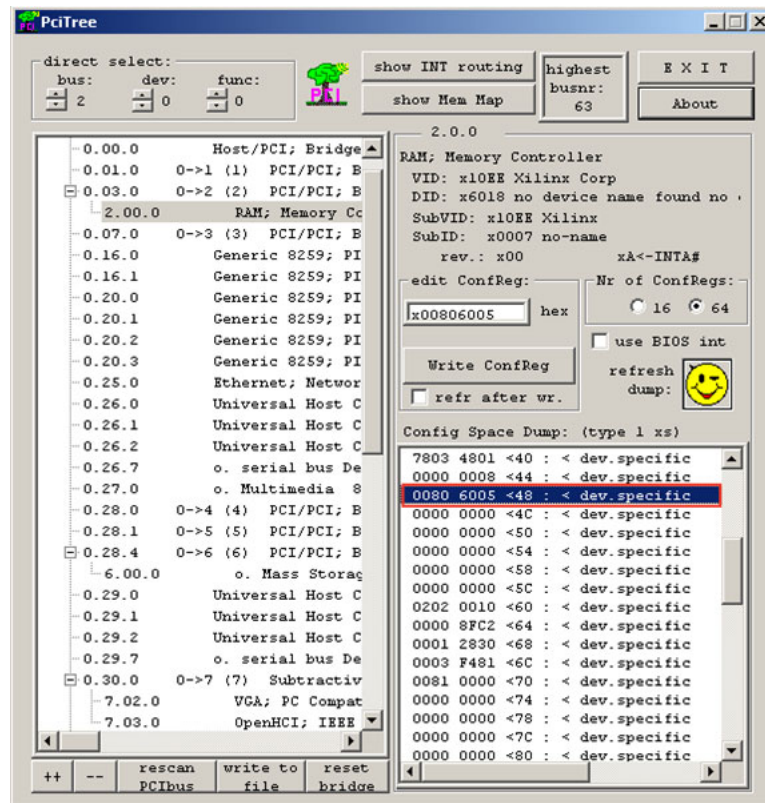

Figure 1-34: Select Register 0x48
16. Select register 0x48 (as shown in Figure 1-34).